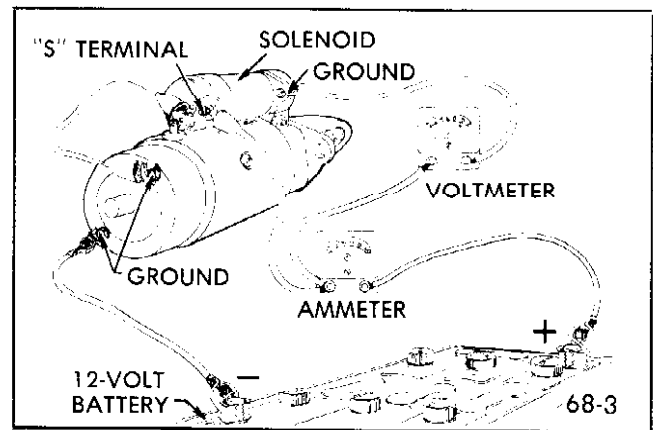

Figure 68-3--Amperage Test of Solenoid
1. Remove screw from solenoid motor terminal and bend field leads slightly until clear of terminal. Then ground solenoid motor terminal with a heavy jumper wire. See Figure 68-3.